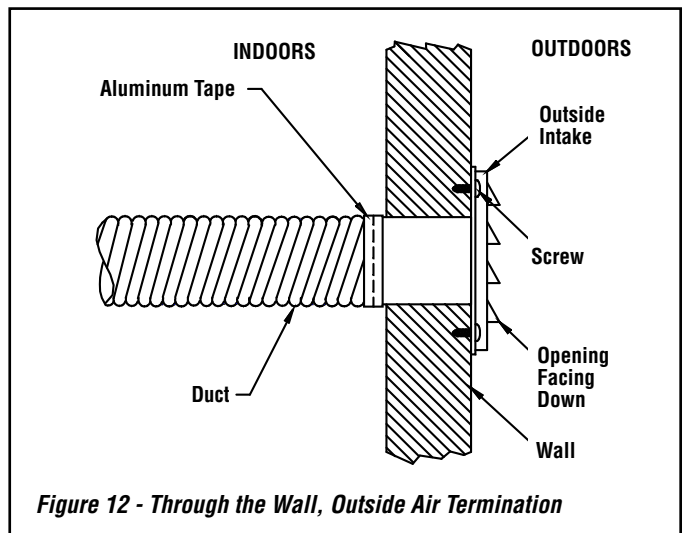

Figure 12 - Through the Wall, Outside Air Termination
- The air intake register must not be installed more than ten (10) feet (3050 mm) above the base of the stove.
- Make a 4-1/4" (110 mm) hole in the outside wall of the house at the chosen location. From outside, place the outside air register in the hole (open side down) and fasten the register to the wall, with screws as shown (*see Figure 12*).
- Attach the duct to the coupler on stove (*see Figure 12*). Using the aluminum tape provided, wrap the tape around the joint between the flexible duct and the air inlet.